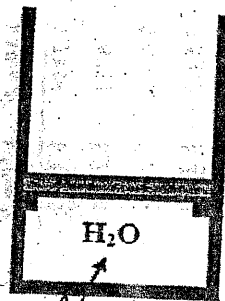

Figure P.9
9. A piston cylinder device shown in figure P.9 contains 0.2 Kg of a mixture of saturated liquid water and saturated water vapor at a temperature of 50°C and a volume of 0.03m^3 . The mass of the piston resting on the stops is 50 Kg and the cross sectional area of the piston is 12.2625 cm^2 . The atmospheric pressure is 100 kPa. Heat is transferred until it becomes saturated vapor. Sketch the process on P-v and T-v diagrams and determine: [8]